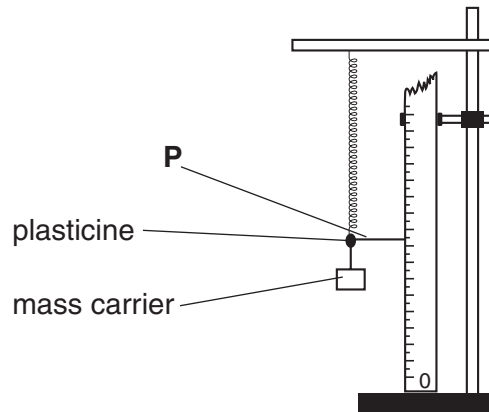

Fig. 2.1
- With a small piece of plasticine, fix the pin **P** at right angles to the spring, as shown in Fig. 2.1. Hang the spring from the metal rod of a clamp.